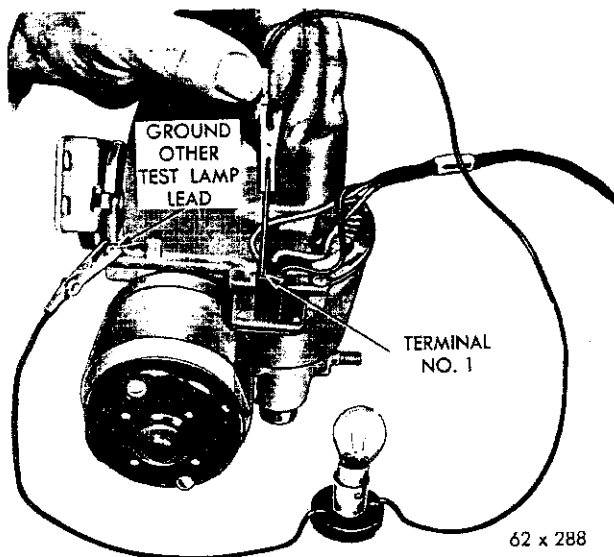

Fig. 43—Electrical Test (Terminal 1)
(1) Turn the ignition "ON", but do not start engine.
(2) Terminal #1—Ground one end of the test lamp lead and test terminal #1 with the other test lamp lead. (Fig. 43). If the lamp lights, the circuit is normal. If the lamp fails to light, the fuse is blown or the wiring harness is open or grounded.
(3) Terminal #2—Ground one end of the test